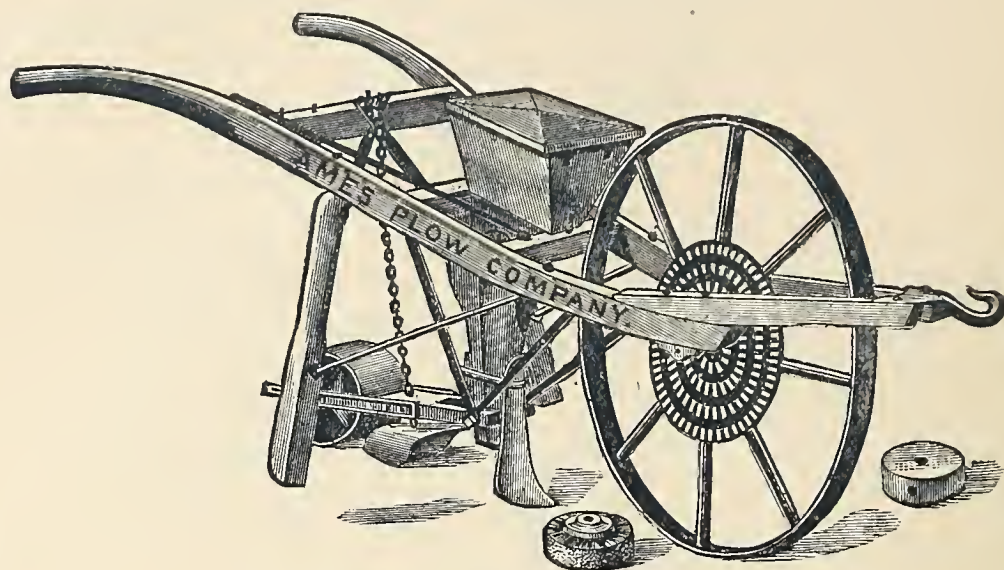

Fig. 337. — Seed-Sower, No. 3.
sowing large seed. The brush and block cylinder (shown detached in *Fig. 337*), which distribute the seeds, are worked by graduated rows of iron eggs or gearings, regulating the speed of the cylinder or brush, which operate simply and uniformly. are durable, and not liable to get out of order. The brush is used for small seeds, and the cylinder for corn, beans, and peas.
**Seed-Sower, No. 3**, represented by *Fig. 337*, is adapted to hand or horse power, and to sowing seeds continuously in drills, or planting them in hills. By change of cylinders (shown detached in illustration), it sows or plants large or small seeds. The